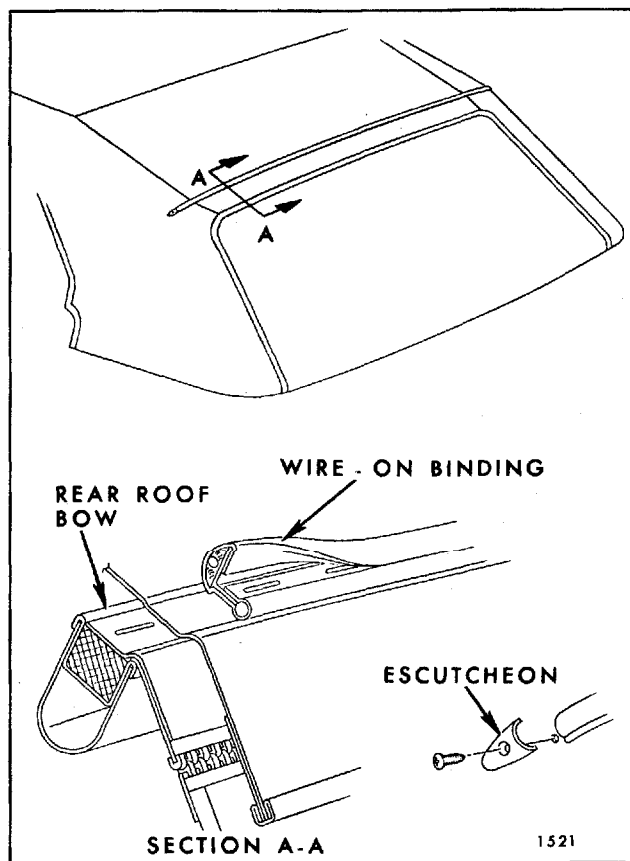

Fig. 6-37—Rear Roof Bow Wire-On Binding
22. Remove screw securing escutcheon clip at each end of wire-on binding on rear bow. Remove wire-on binding from rear bow. Detach top material from rear roof bow and from trim sticks, then remove top cover assembly (Fig. 6-37).